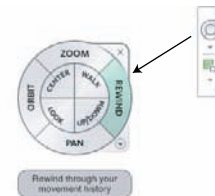

Figure 2.6
1. Click the Steering Wheel icon on the navigation bar (Figure 2.6).